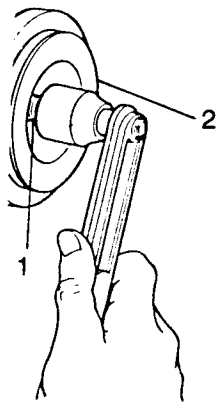

Fig B4.33
- (3) Refer to Fig B4.33. Loosen the harmonic balancer bolt (1) using special tool 18G98A (2).